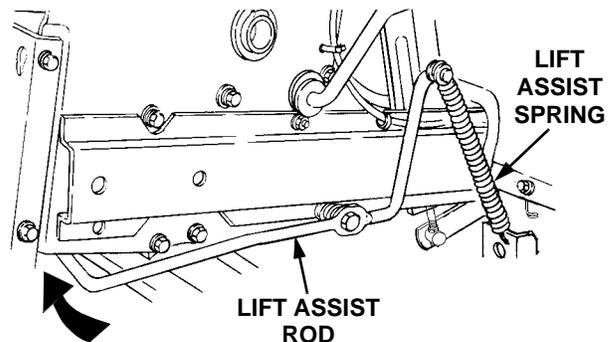

Figure 43
21. Tension the lift assist spring by pushing downward and then inward on the rear of the lift assist rod so that the flange at the rearward end of the rod locks inside the tractor frame (See Figure 43).